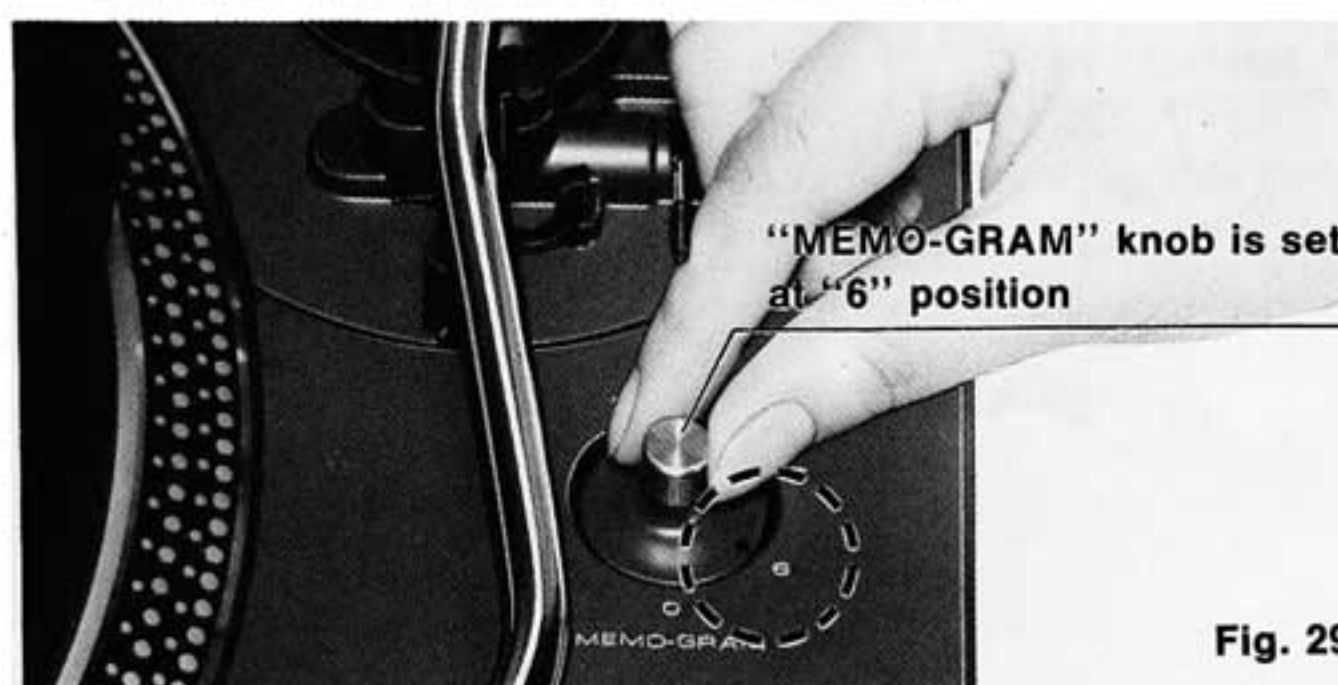

Fig. 29
*If you want to play less than six records and repeat the last record one or more times, simply set the "MEMO-GRAM" knob to the number of records plus the number of additional plays desired; i.e., if three records are stacked on the spindle and you want the last record to repeat three times, then, set the "MEMO-GRAM" knob to the number "6". (See Figs. 29)